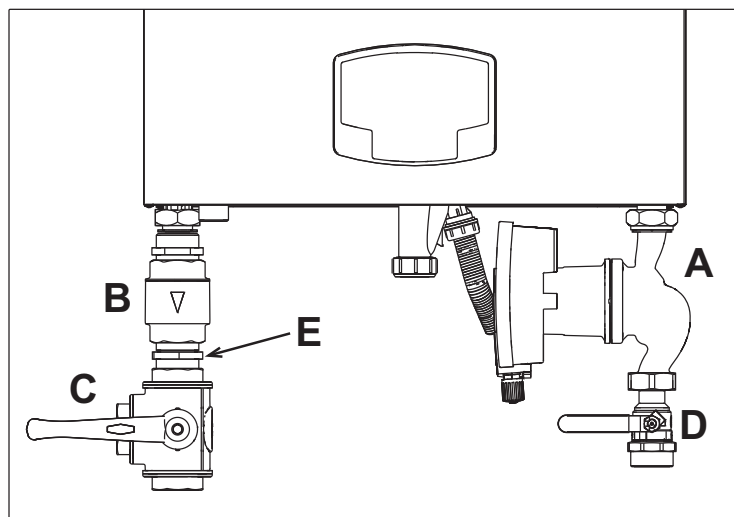

fig. 35- Boiler with installed kits
**code 042070X0 - HIGH EFFICIENCY CIRCULATING PUMP KIT- 7m. (A - fig. 35)**
**code 042071X0 - HIGH EFFICIENCY CIRCULATING PUMP KIT- 10m. (A - fig. 35)**
- 1 **NON-RETURN VALVE - Female 1"1/2 (B - fig. 35)**
- 2 **3-Way FAUCET - Female 1"1/2 (C - fig. 35)**
- 3 **FAUCET Male/Female 1"1/2 (D - fig. 35)**
- 4 **CONNECTION NIPPLE 1"1/2 (E - fig. 35)**